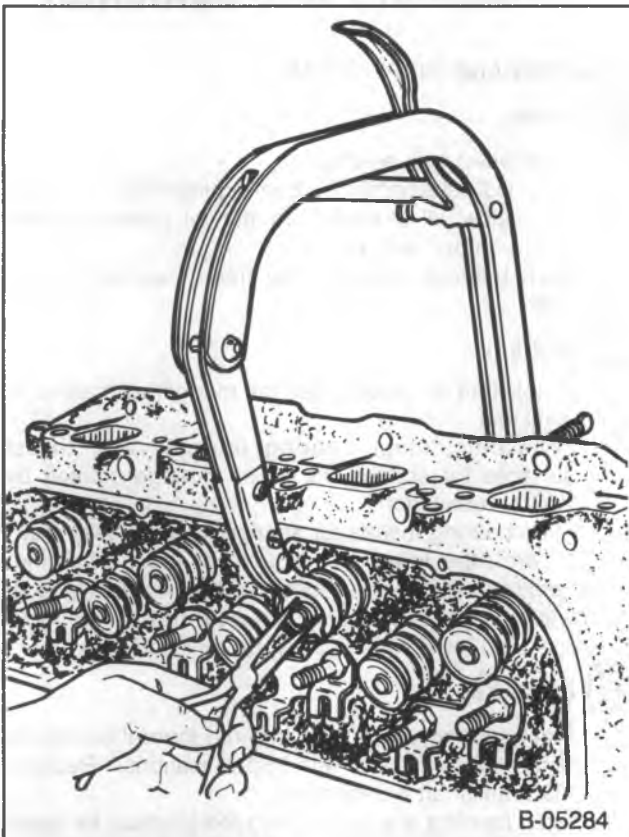

Figure 24—Compressing the Valve Springs
- Valve keepers (22).
- Compress the springs with J 8062 (figure 24).
- Caps (23), oil shedder (24), and springs.
- O-ring seals (26) and seals (25) (if used).
- Compress the valve spring using J 8062 (figure 24). Compress the spring enough so the lower valve stem groove can be seen clearly.
- Push a new O-ring seal (26) onto the valve stem. The seal is to be installed on the stem's lower groove. Make sure the seal is flat and not twisted.